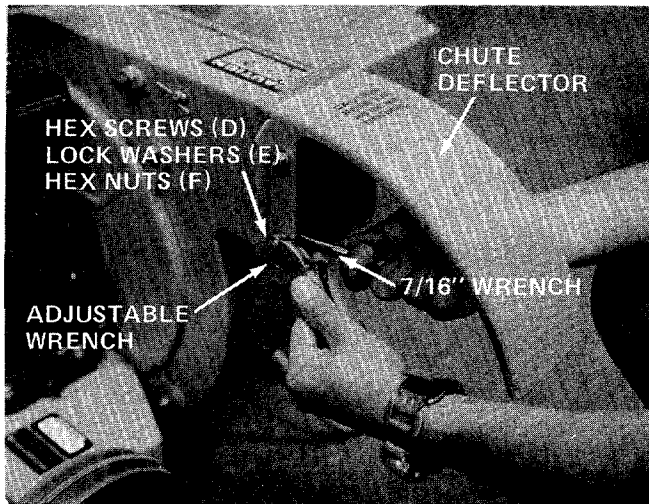

FIGURE 3
← 3. Secure with four hex screws (D), lock washers (E) and hex center lock nuts (F). Heads of screws are assembled from the inside. Nuts and washers go on the outside. Start all four screws, nuts and washers by hand, then tighten with an adjustable wrench and 7/16" wrench. See figure 3.